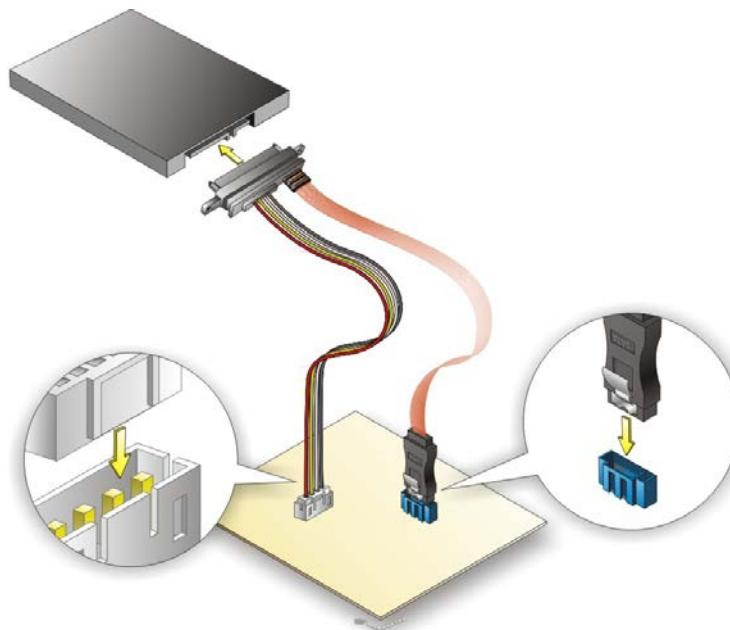

Figure 4-15: SATA Drive Cable Connection
Step 2: **Insert the cable connector.** Insert the cable connector into the on-board SATA drive connector and the SATA power connector. See Figure 4-15.
Step 3: **Connect the cable to the SATA disk.** Connect the connector on the other end of the cable to the connector at the back of the SATA drive. See Figure 4-15.